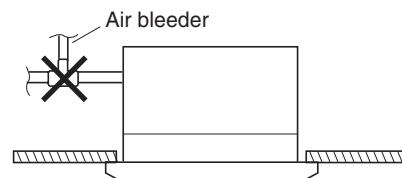

Fig. 1-19
- Do not install an air bleeder tube, as this may cause water to spray from the drain tube outlet. (Fig. 1-19)